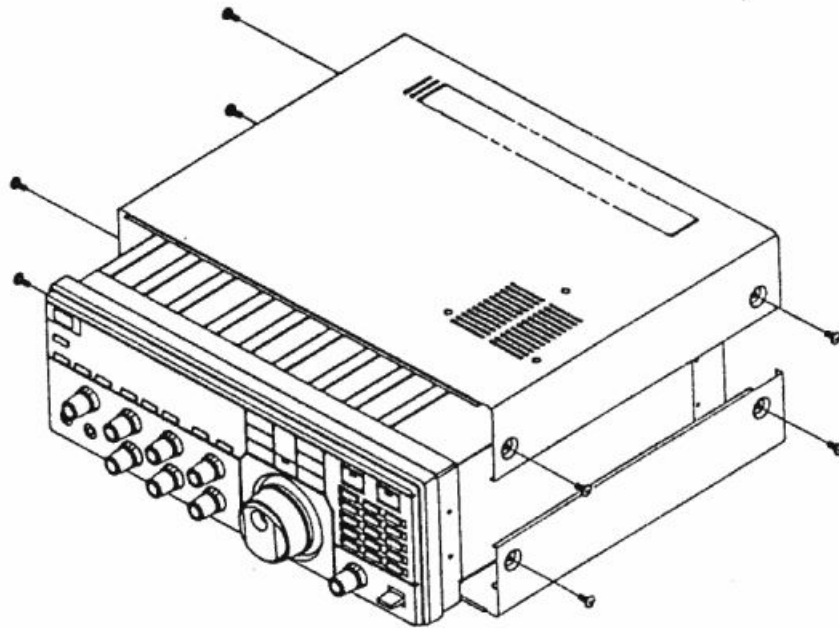

Fig. 9-1 Removing Covers
2. Remove the upper cover as shown in Fig. 9-1.
As shown in Fig. 9-1, remove the upper cover or lower cover by loosening four screws. The spiker is mounted on the upper cover. Remove the upper cover slowly, taking care not to break the speaker cables. Remove the connector at the end of the cable from the internal unit if necessary.